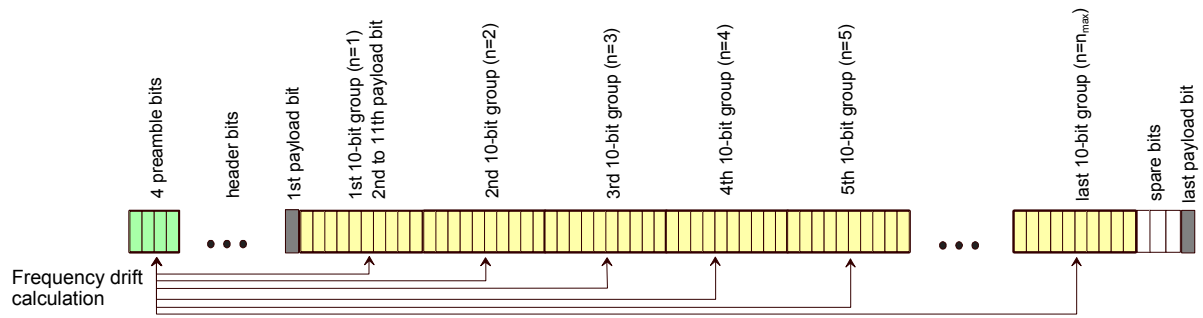

Fig. 4-60 Calculation of Frequency Drift
*Frequency Accuracy* Difference between the measured transmitted frequency and the intended transmitted frequency (the nominal Bluetooth channel frequency) at the beginning of the packet (4-bit constant preamble preceding the information bits) in kHz. To obtain the measured frequency, integration is done from the center of the 1st bit in the preamble to the center of the 1st bit following the preamble (4 complete bit periods, see Fig. 4-60 below).
where the  $t_n$  denote the time at the 10-bit groups,  $t_0$  the time at the start of the packet. The first and the last bit of the payload is not considered; the same holds for incomplete 10-bit groups at the end of the payload (spare bits, see Fig. 4-60 below). The R&S® CBT expects the pattern type and the payload length as configured in the test mode settings (see section Behavior of the DUT \(Connection Control – Slave Sig.\) on p. 4.156.).